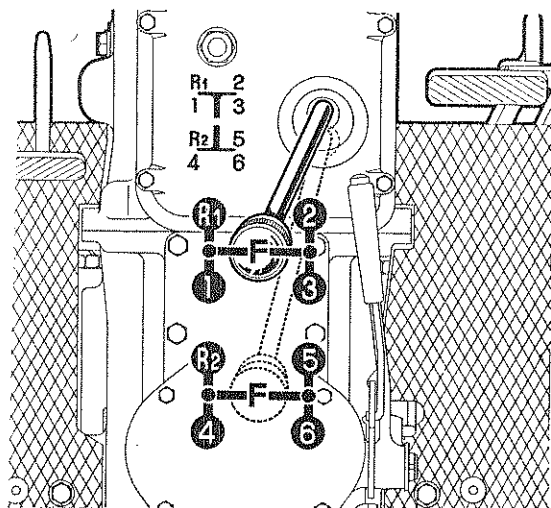

Fig. 7. - Gearshift lever positions.
**13. Gearshift lever:** the shifting positions of lever for the six speeds forward and two reverses are shown in fig. 7. To shift gears, always disengage the clutch.